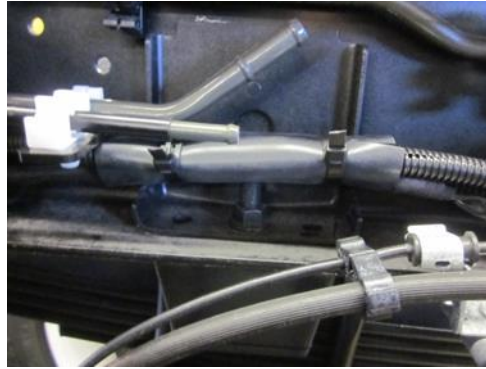

Figure 44
9. Wrap the other sleeve around both the vehicle harness and the DFT harness, over the bump-stop bracket and secure with two (2) tie-straps. (See Figure 44.)